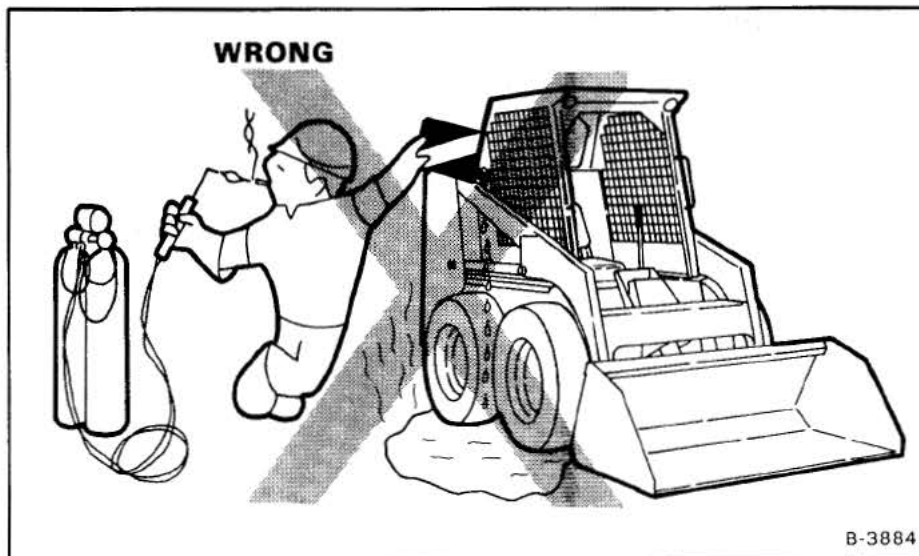

Fig. 7 Fuel Fill
6. DO NOT fill the fuel tank until after the engine is stopped and is cool. The area must have good ventilation and be free of sparks or open fire (Fig. 7).